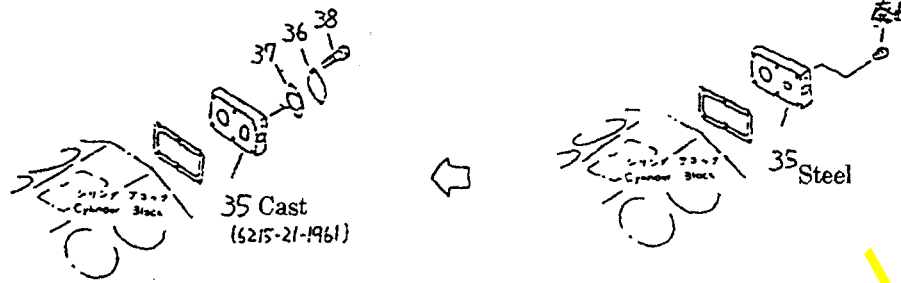

Fig. 50
- ⑰ Cast heater connector on HD785-3 (Fig. 50)